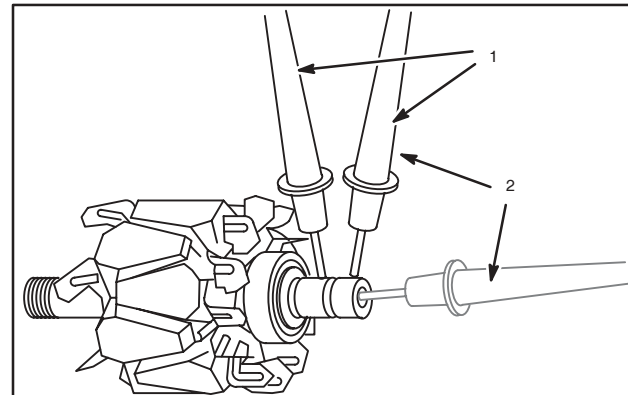

Fig. 31 – Check Rotor
1. Use digital multimeter and check for continuity between slip rings as shown, Fig. 31.